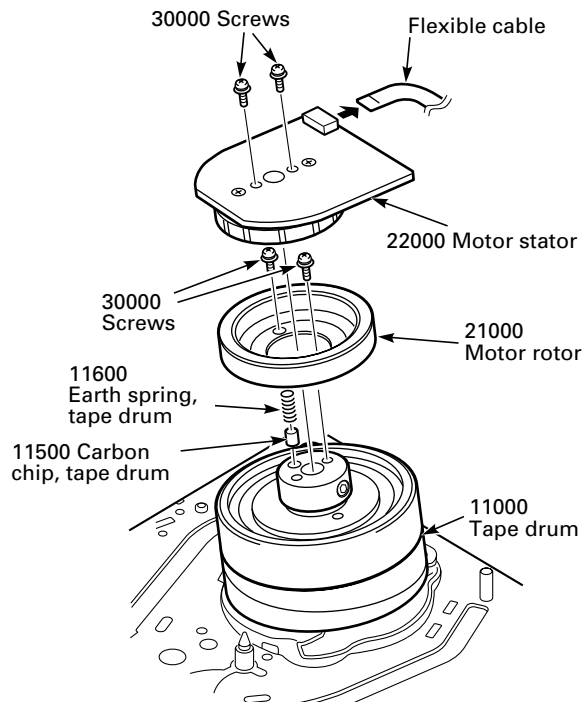

Fig. 8.37
- Undo two screws (Pos. 30000), remove the stator (Pos. 22000) and the tape drum earth spring (Pos. 11600, Fig. 8.37).
- When turning the mechanism upside down now, the carbon chip (Pos. 11500) will fall out (Fig. 8.37).
- Undo two screws (Pos. 30000) and remove the rotor (Pos. 21000, Fig. 8.37).